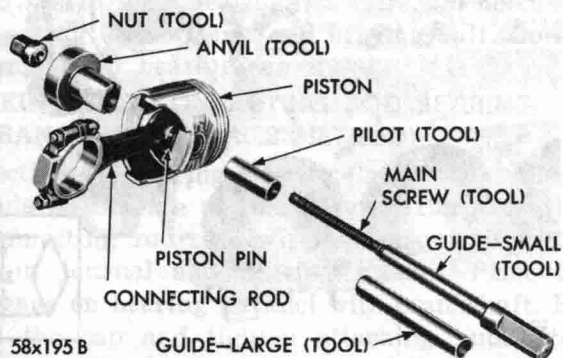
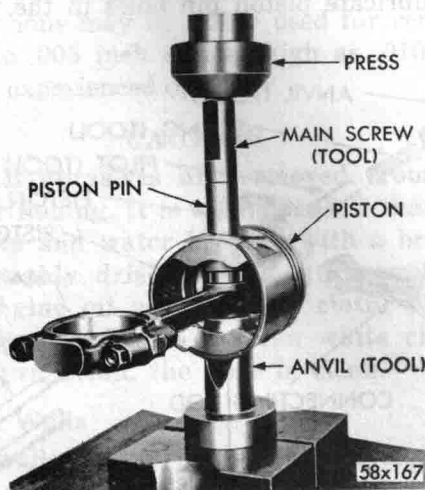

Fig. 46—Removing Piston Pin Using Tool C-3624
Fig. 49—Installing Piston Pin in Connecting Rod
of piston pin, as shown in Figure 46.
(8) Install the nut on puller screw to hold assembly together. Place assembly on a press, as shown in Figure 49.
(9) Press in the piston pin until piston pin bottoms on the pilot properly positioning the pin in the connecting rod.
(10) Remove the tool and arrange tool parts and piston assembly in the same manner, as shown in Figure 46.